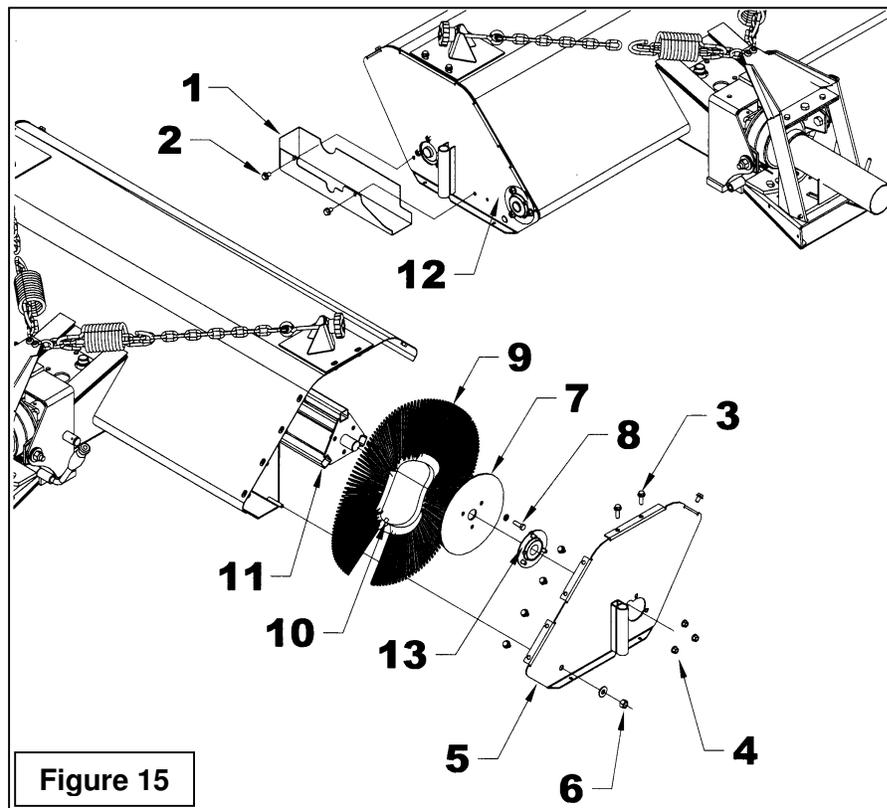

Figure 15
Brush Replacement (Figures 15 & 15a)
3. **Fig.15:** Remove the two bolts (item 2) and withdraw the chain guard (item 1).
4. **Fig.15:** Remove the right side of the broom (item 5) by unscrewing the three nuts (item 4), the nine bolts (item 3), the lockwasher and the nut (item 6).
5. **Fig.15:** Remove the bearing and the flanges (item 13) by unscrewing the two setscrews from the bearing.
6. **Fig.15:** Remove the retaining plate (item 7) by unscrewing the three bolts (item 8).
7. **Fig.15:** Remove the brushes by sliding them towards the outside of the brush support (item 11).
9. **Fig.15:** Insert the first brush on the brush support by aligning the guides (item 10) on each side of a brush support tube (item 11). Continue the same procedure with the remaining brushes by turning each brush 120° (12 o'clock, 4 o'clock and 8 o'clock) so the guides are distributed evenly on each brush support tube.
12. **Fig.15:** Replace the retaining plate (item 7) by tightening the bolts (item 8) and lockwashers firmly.
13. **Fig.15:** Install the bearing and the flanges (item 13) on the right side (item 5) and reinstall the right side of the broom. Tighten the bearing setscrews (item 13).
14. **Fig.15:** Check the condition of the chain and realign the chain tensioner (item 12).
15. **Fig.15:** Reinstall the chain guard (item 1).